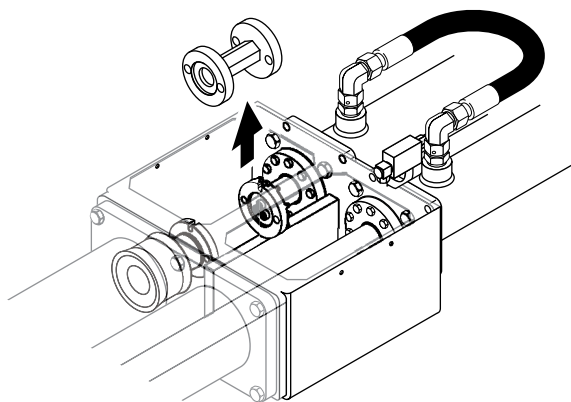

Figure 20
7. Remove the spacer coupling from the waterbox (Figure 20).